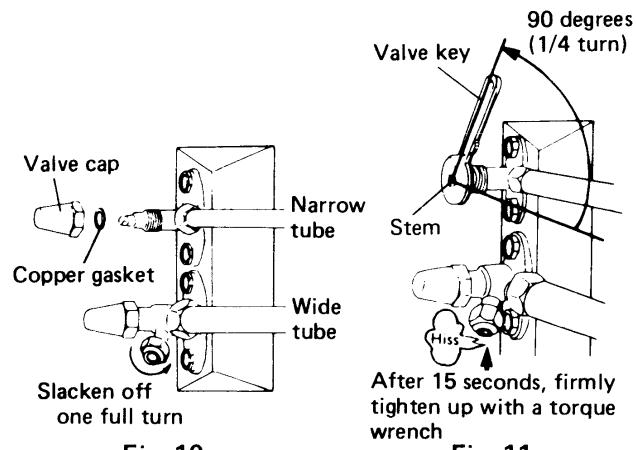

Fig. 10
- ① Remove the valve caps from the service valves on the narrow and wide tubes.
- ② Slacken off the flare nut at the charging port one full turn. Fig. 10
- ③ Open the service valve on the narrow tube by 90 degrees (1/4 turn).